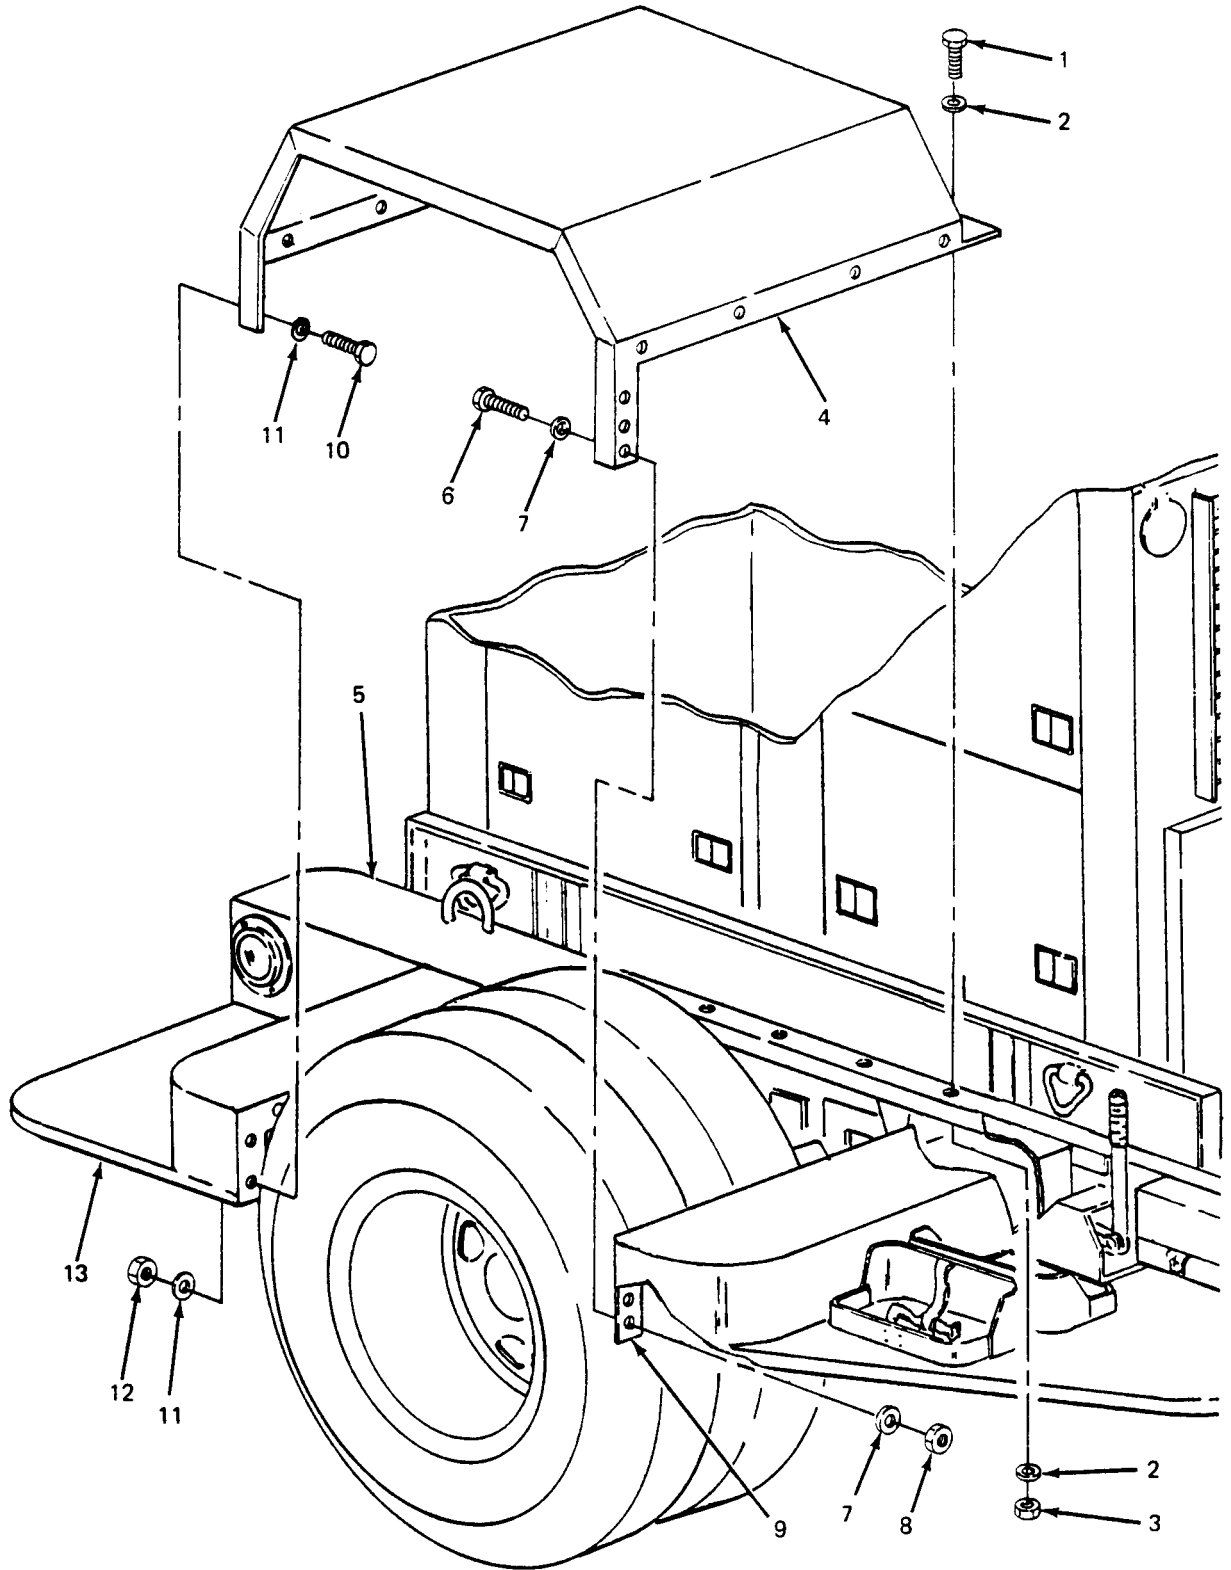

Figure 4-10. Fender Replacement.
- (1) Position rear step (11) on trailer frame (6).
- (2) Secure rear step (11) to trailer frame (6) with two screws (8), four flat washers (9) and two nuts (10).
- (3) Secure rear step (11) to fender (15) with five screws (12), ten flat washers (13) and five nuts (14).
- (4) Aline two mounting holes in rear step bracket (4) with holes in trailer frame (6) under taillight (7') and insert two screws (1).
(5) Slide S-hook at chain end of platform anchor (5) onto threaded end of lower screw (1) inside trailer frame (6).
(6) Install one flat washer (2) and one nut (3) on each screw (1) and tighten.
**4-22. Fender Replacement.** (See figure 4-10.) The trailer assembly fenders are symmetrical, and replacement procedures are the same for each.
(1) Remove five screws (1, figure 4-10), ten flat washers (2) and five nuts (3) securing fender (4) to trailer frame (5).